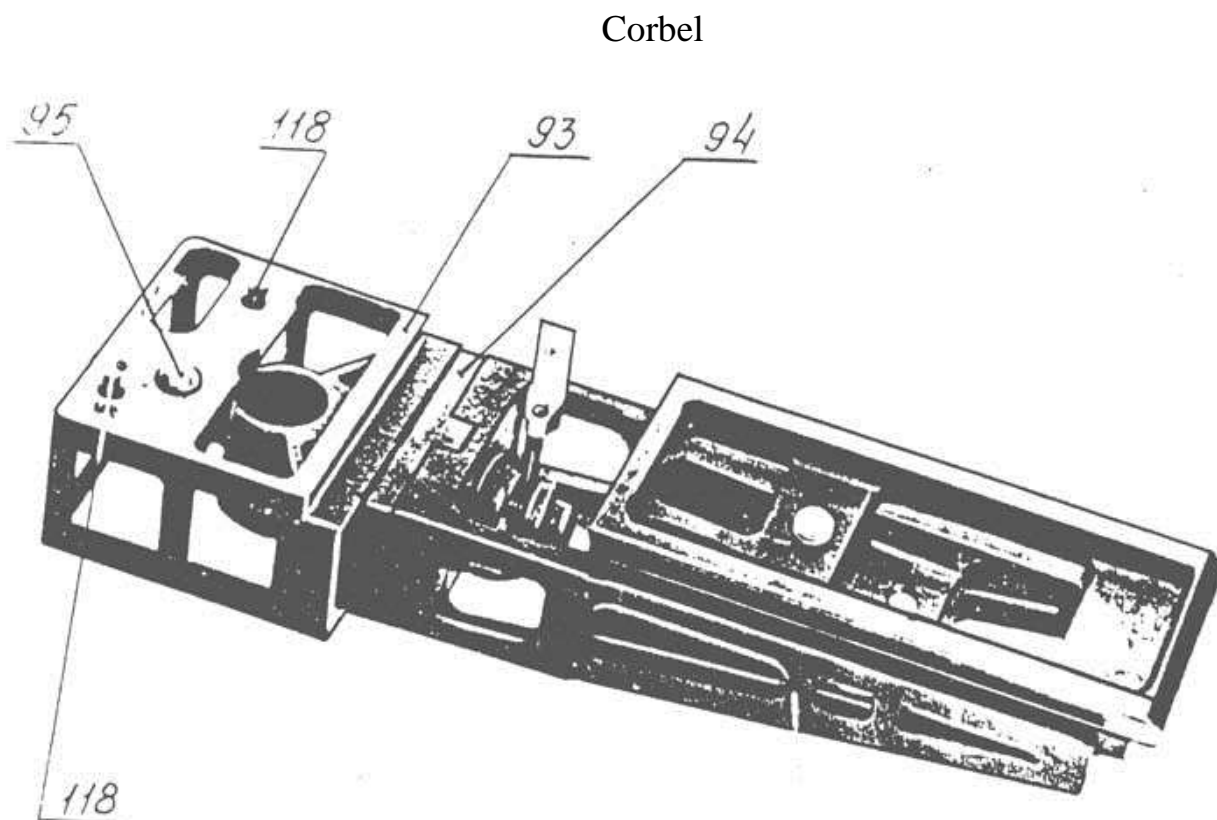

Figure 13
The corbel (figure 13) is intended for installation of the matte box 1KSR-2M, anamorphic blocks, and also (if necessary) lenses with variable focal length (zoom lenses). The corbel has a "dovetail" support. The corbel consists of two basic parts - an universal corbel (2KU) (92), and base (93) to which the cross (94) fastens.